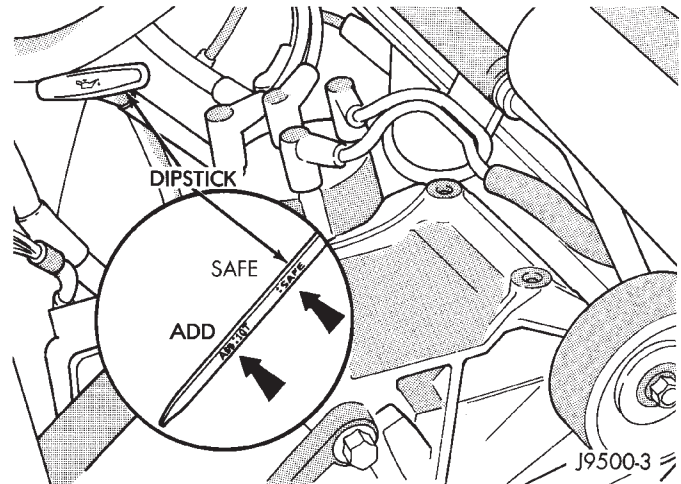

Fig. 7 Engine Oil Dipstick—2.5L Engine
To ensure proper lubrication of an engine, the engine oil must be maintained at an acceptable level. The acceptable levels are indicated between the ADD and SAFE marks on the engine oil dipstick (Fig. 7).
- (1) Position vehicle on level surface.
- (2) With engine OFF, allow approximately ten minutes for oil to settle to bottom of crankcase, remove engine oil dipstick.
- (3) Wipe dipstick clean.
- (4) Install dipstick and verify it is seated in the tube.
- (5) Remove dipstick, with handle held above the tip, take oil level reading (Fig. 7).
- (6) Add oil only if level is below the ADD mark on dipstick.